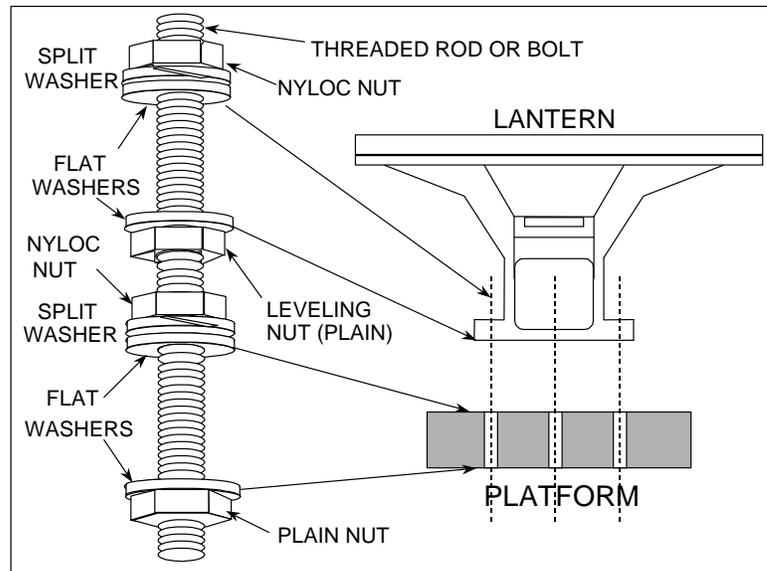

Figure 3-30
- a. Install three ½ inch threaded rods or bolts equally spaced on a 7-7/8" bolt circle in the platform as shown in Figure 3-30. Add the leveling nut and flat washer at this time. Note, the beacon is provided with two (2) Nylock and two (2) plain nuts for each mounting rod.